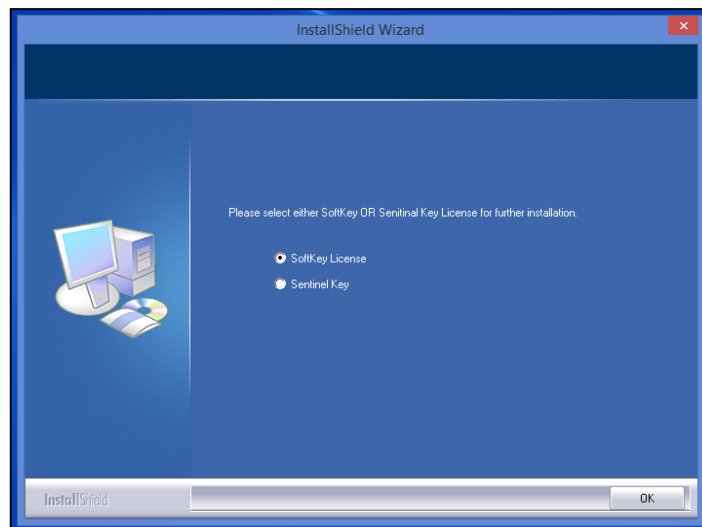

Figure 5. Software Key License
- a. If the user has a HunterLab USB hardware key, then it can be used with a new sensor on the same computer. Return to Install the Software, Step 5 (Figure 5) and select the Sentinel Key to continue.